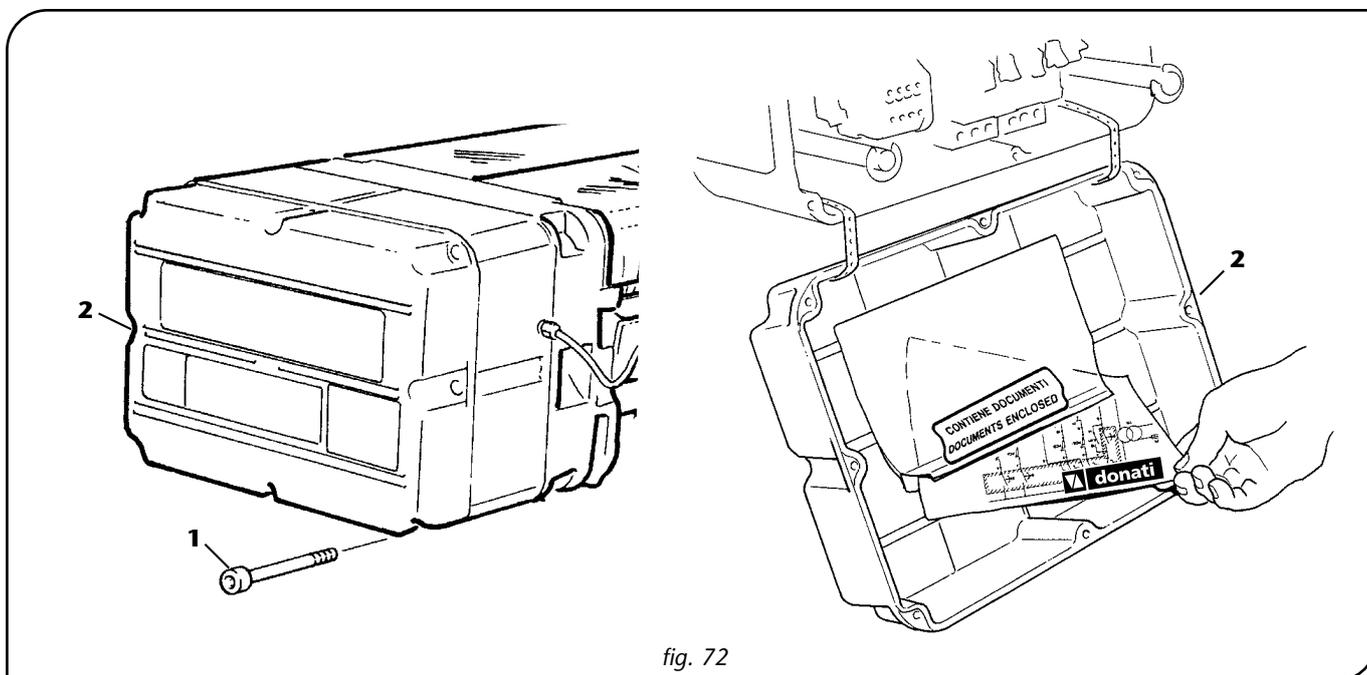

fig. 72
3. Completely unscrew the screws -1- which fix the cover of the space on the side of the apparatus (the one opposite the motor), remove the cover -2- and check that there is an electrical circuit diagram inside the control board (fig. 72).
6. Put the electrical circuit diagram back in the space in the apparatus, put the cover back -2- taking care not to damage the gasket and/or the related holding surface and tighten all the screws completely -1- (fig. 72).